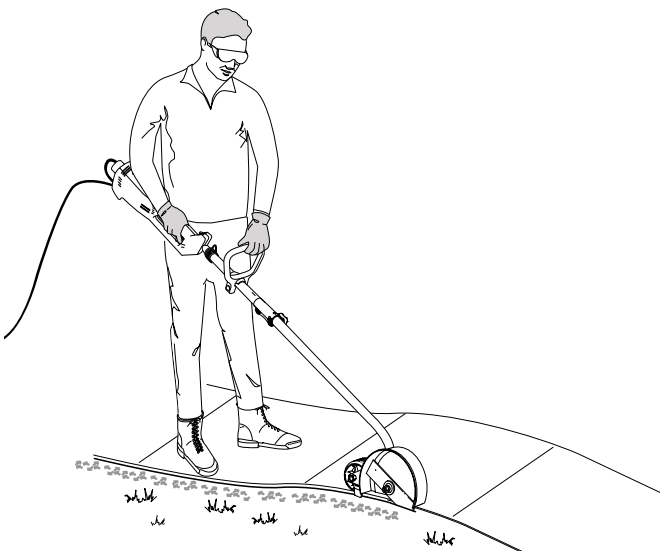

Fig. 13
Before operating the unit, stand in the operating position (Fig. 13). Check for the following:
- The edger wheel adjusted for proper cut depth and edger positioned as shown in Fig. 13.